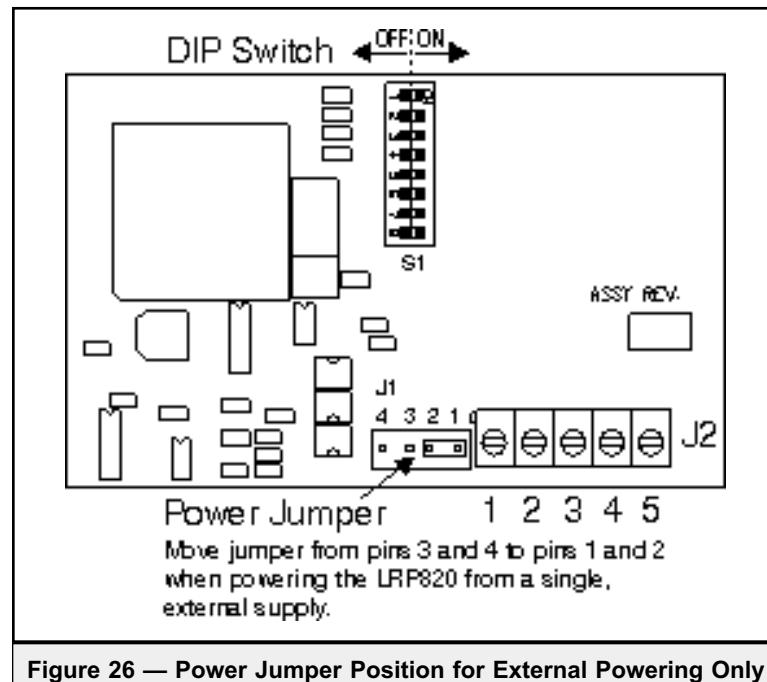

Figure 26 — Power Jumper Position for External Powering Only
4. Referring to Figure 26, locate jumper J1 and move the shunt from pins 4 and 3 to pins 2 and 1.